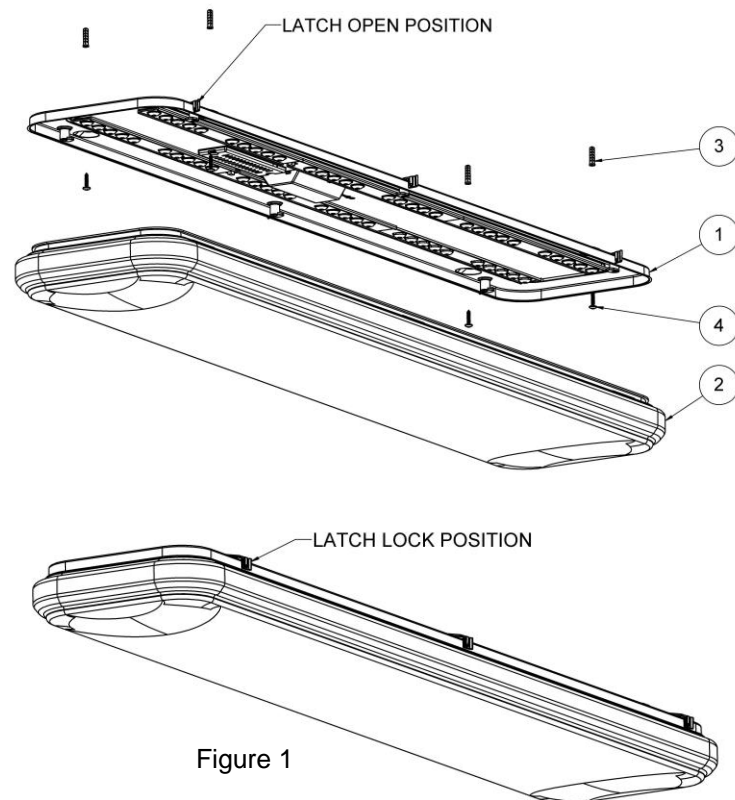

Figure 1
- A. Install back pan (1) by aligning four holes on the corner of pan to previously drilled holes or plastic anchors (3) with four wood screws (4) until securely tighten to ceiling. All six latches must be in open position at this step.
- B. Install diffuser (2) to the back pan (1) by rotating all six latches to lock position to secure it per figure 1.